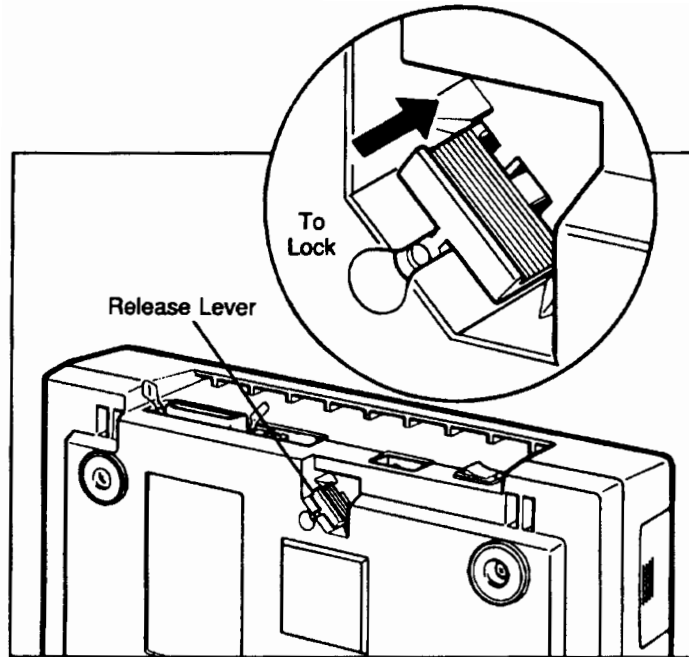

Figure 1-2. Relocking the ScanJet Plus Scanner
5. Relock the scanner by tilting it on end and sliding the release lever toward the scanner until you feel it lock. See figure 1-2.